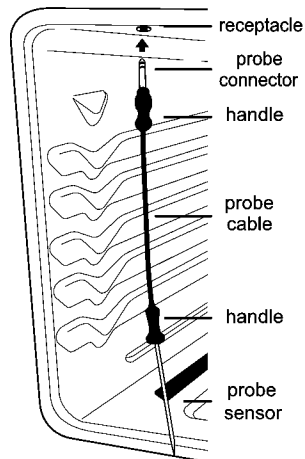

Figure 37: Probe receptacle insertion
The probe receptacle is located at the top of the oven cavity as shown in Figure 37.
Handle the meat probe carefully when inserting and removing from food or probe receptacle. Do not use kitchen utensils, such as tongs, to pull on meat probe cable when inserting or removing from food or receptacle. Use the provided handle, as shown in Figure 37. To avoid possibility of burns after cooking, carefully unplug meat probe using a pot holder to protect hands.
2. Plug the meat probe into the probe receptacle located on the top of the oven cavity (Figure 37).